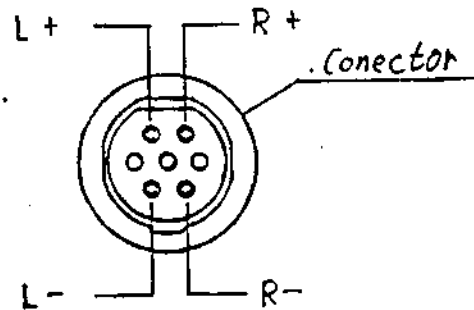

Fig. 8
- Yes: Remove the headshell, touch the right and left end tips of the tonearm connector with a tip-sharpened metallic rod such as screwdriver and listen for the speaker to produce a humming noise (fig.8).